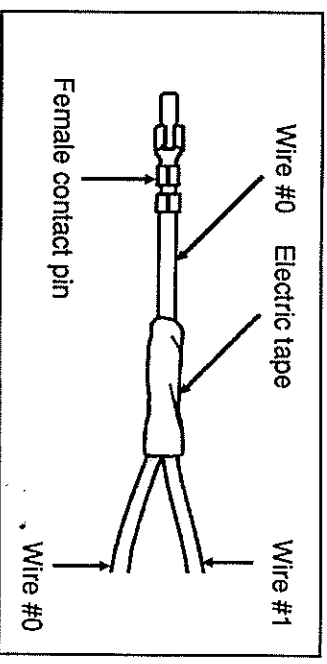

Figure 2
7. Strip (without cutting it) a length of about 1/2" (13 mm) on black wire #0 and solder white wire #1 to this wire. See figure 2.